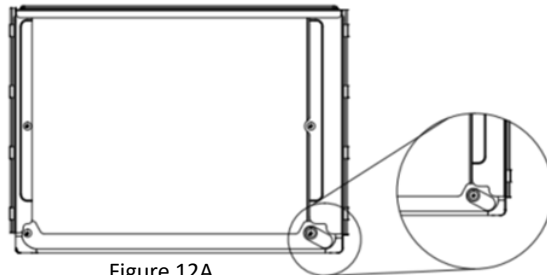

Figure 12A
- a. The air conditioner has the drainage gasket (Figure 12A).